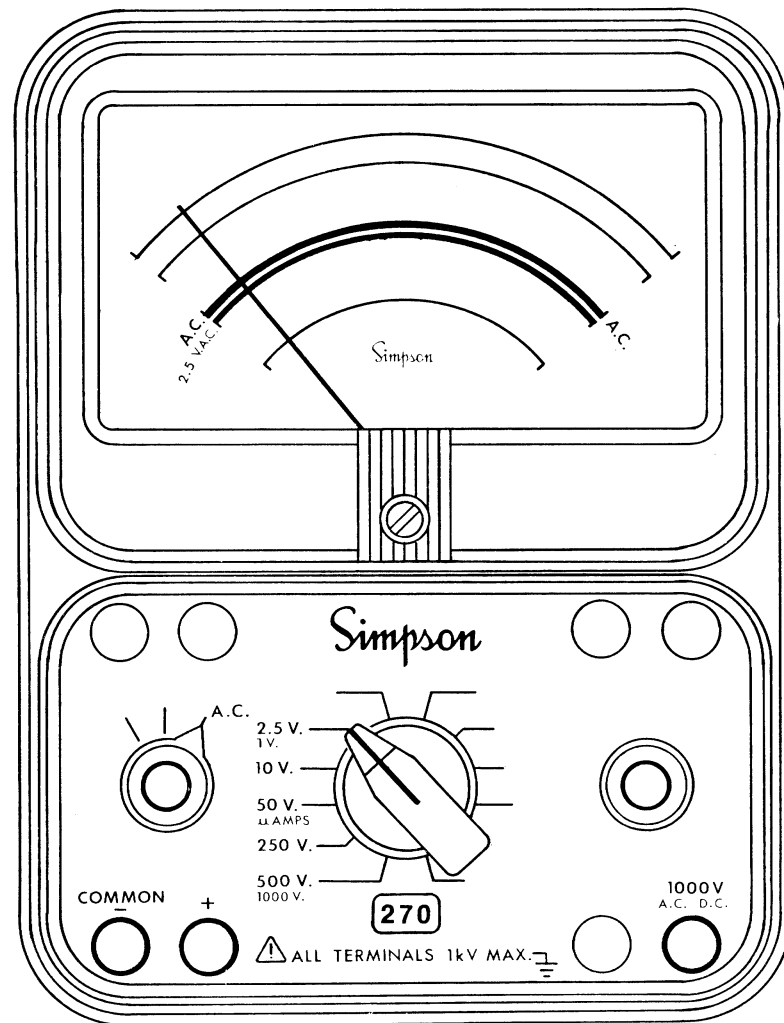

FIGURE 4-3. JACKS AND SWITCH POSITIONS FOR MEASURING AC VOLTAGE
- Set the function switch at AC (Figure 4-3).
- a. Set the function switch at AC (Figure 4-3).